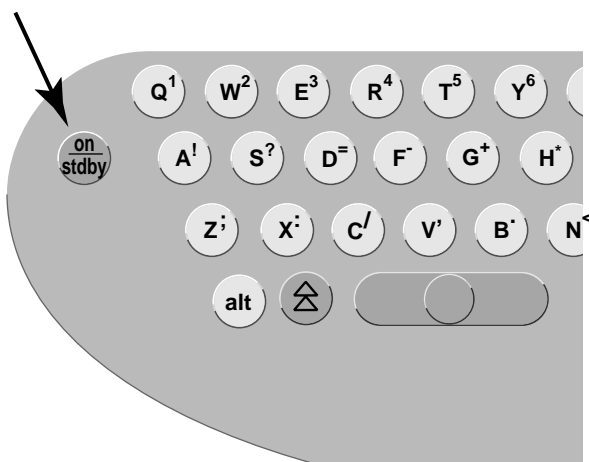

Figure 3-4. Power switch
- Press the power switch to switch on the device (Figure 3-4).